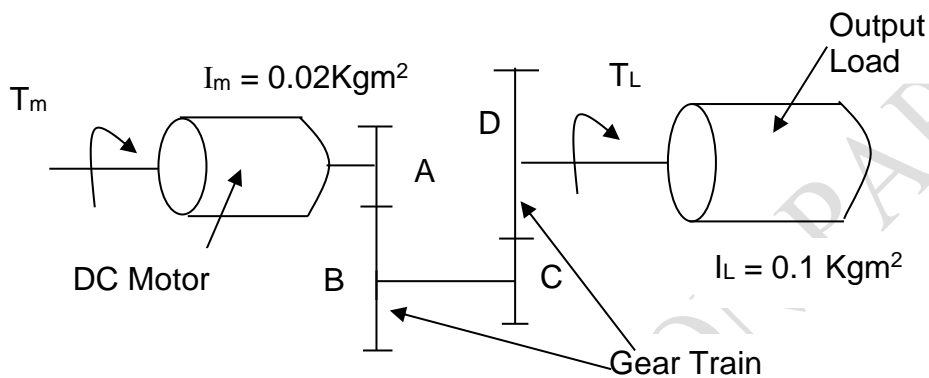

Figure Q6(b) The driven system
- (b) Figure Q6(b) shows the driven system with a compound gear train for this automated assembly line. A DC motor with a maximum speed of 1500 rpm, a maximum torque of 50 Nm and a maximum power of 800 W has been selected. The system has used a gear train, where the first driver Gear A has 20 teeth, Gear B 40 teeth, Gear C 12 teeth and Gear D 48 teeth.